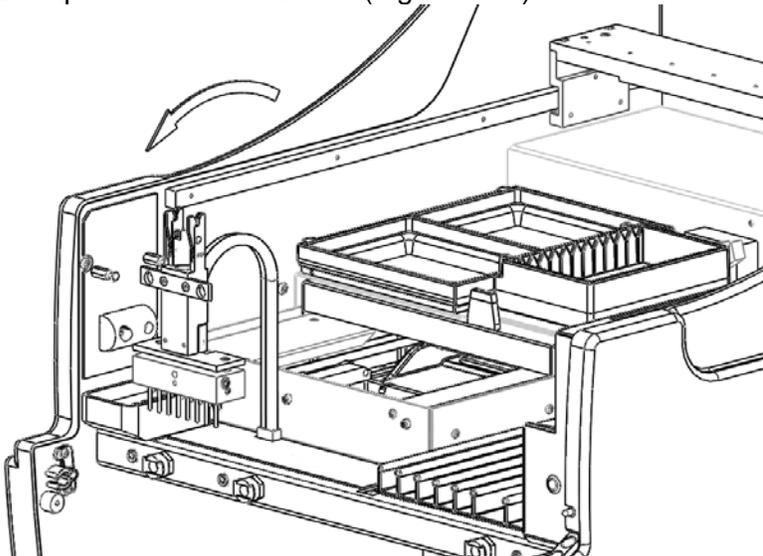

Figure 13-4 Flipping Wash Head
2. Flip the Wash Head over (Figure 13-4)
3. Rotate the Wash Head (Figure 13-4) 90 degrees clockwise before placing it onto on to the Wash Head Supports. Ensure the wash head tubing is not twisted or kinked when the wash head is resting on the wash head supports.